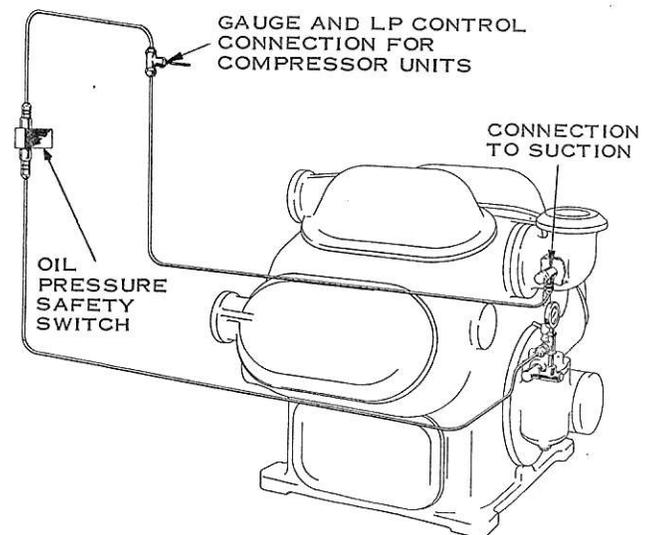
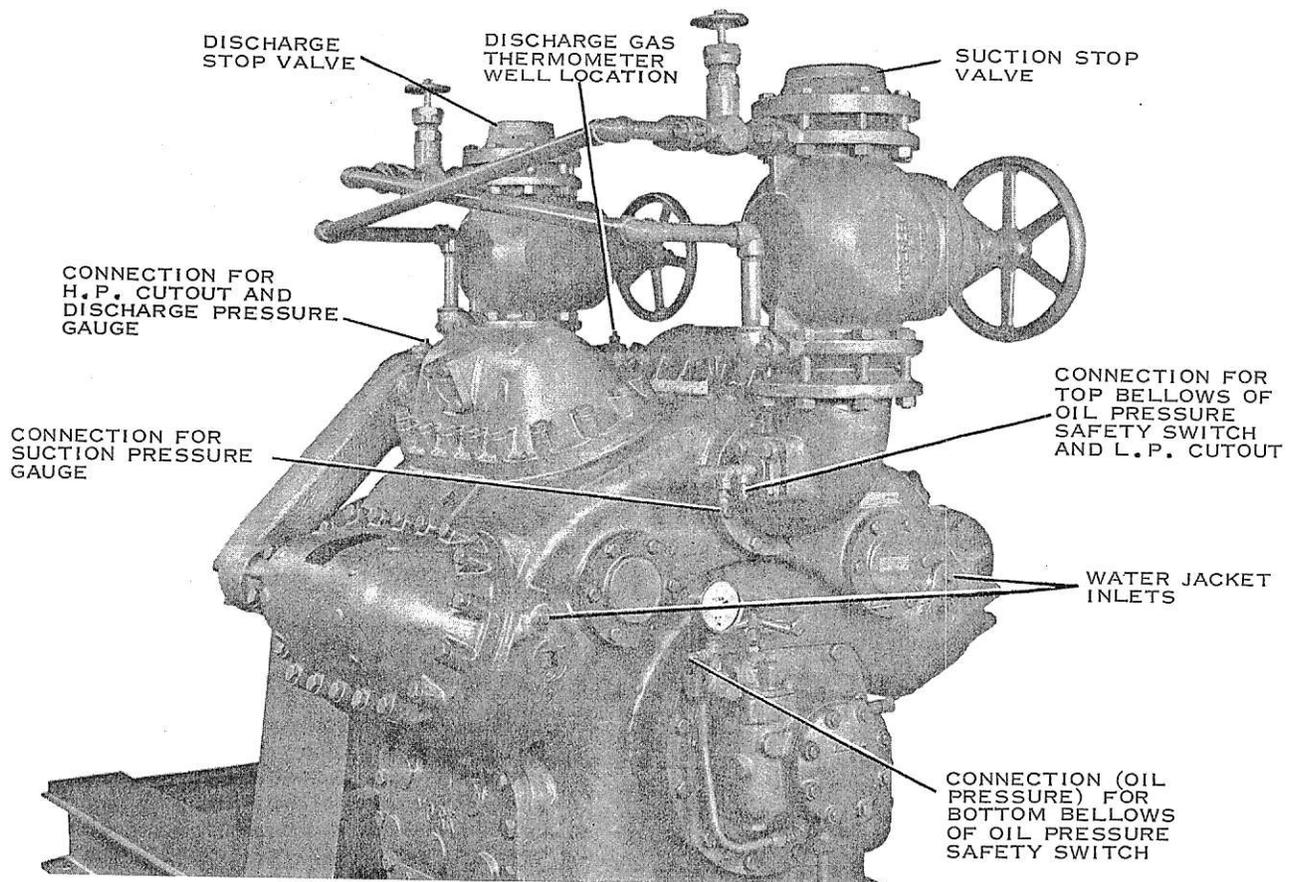

FIG. 18— Tubing Connections - Oil Pressure Safety Control
FIG. 19— Connections - Oil Pressure Safety Switch, H.P. & L.P. Cutouts, Suction & Discharge Pressure Gauges
The discharge gas manifold of each compressor is provided with two 3/4" ips plugs located at the top of the manifold, one on each side of the discharge stop valve. (See Fig. 19.) One of these plugs should be removed and the steel thermometer well furnished (in the Accessory Tool Kit) should be installed in its place. The discharge temperature thermometer should be installed in this well after all installation work has been completed, just before startup.
Mount the optional gauge board and pressure controls on a wall or other convenient location close to the unit and install the gauges. Using 1/4" seamless, annealed steel tubing, run a line from the connectors in the 1/4" capped valve in the compressor suction elbow to the suction pressure gauge. The low pressure cutout and oil pressure safety switch should be connected to the remaining open connector on the suction elbow as shown in Fig. 18 and Fig. 19. (See DIFFERENTIAL OIL PRESSURE SAFETY SWITCH.) Similarly, run 1/4" tubing from a connector placed in the 1/4" ips opening in one of the 3/4" ips plugs in the discharge manifold to a tee and the high pressure cutout and the discharge pressure gauge. (See Fig. 19.)
This control, which is shipped loose, should be mounted on a wall or other convenient location. Pressure connections should be made from the oil pump discharge to the bottom or high pressure bellows. Connect a 1/4" O. D. steel tube from the upper or low pressure bellows to the suction elbow of the compressor using the connectors provided. The low pressure cutout should also be connected into this line as explained under PRESSURE CONTROLS AND GAUGE BOARDS. (See Fig. 18 and Fig. 19.)
3. Install the discharge thermometer in its well. (See Fig. 19). Before inserting the thermometer, a small quantity of oil may be placed in the thermometer well.